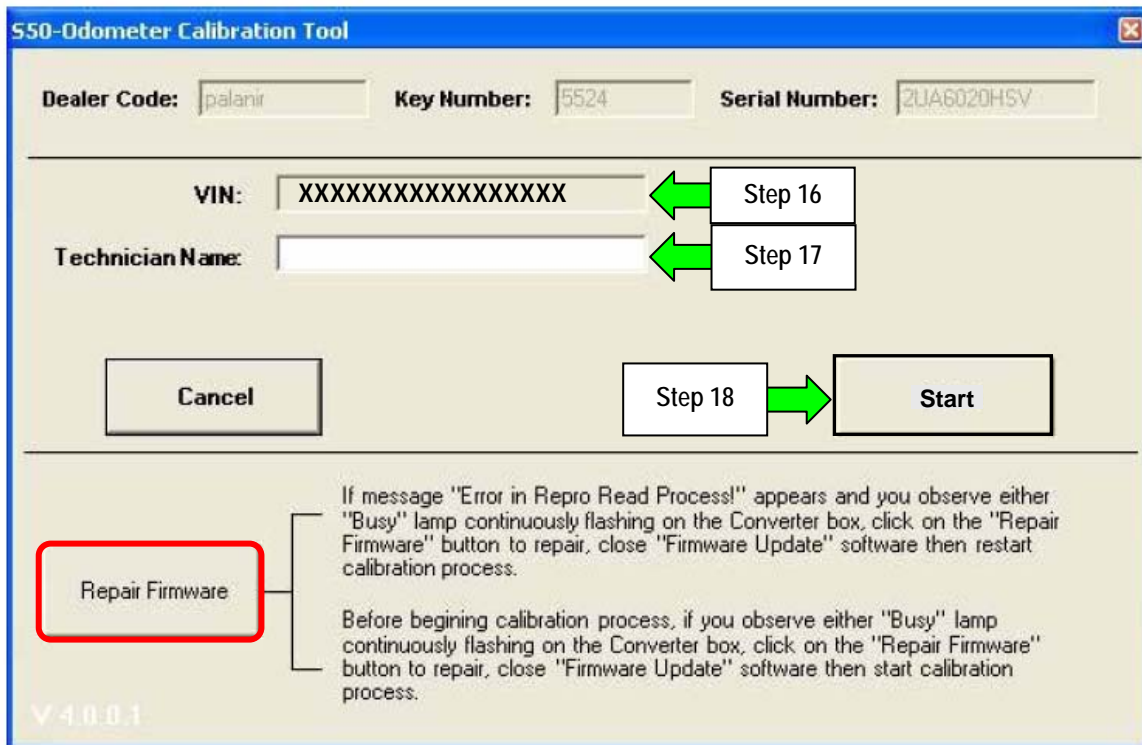

Figure 1i
14. The FX Odometer Calibration Tool will launch automatically (see next page, Figure 1i).
- a. Select "Repair Firmware" (see Figure 1i below).
- c. Close the Odometer Calibration Tool – click on the X in the upper right corner of the window (see Figure 1i).
16. Going back to your CONSULT PC, the **VIN** will automatically display (see Figure 1i).
17. Enter the **Technician Name** (see Figure 1i).
- The display window will return to the Odometer Calibration Tool (see previous page, Figure 1i).
- b. Select "Repair Firmware" (see previous page, Figure 1i).
- d. Close the Odometer Calibration Tool - click on the X in the upper right corner of the window (see previous page, Figure 1i).